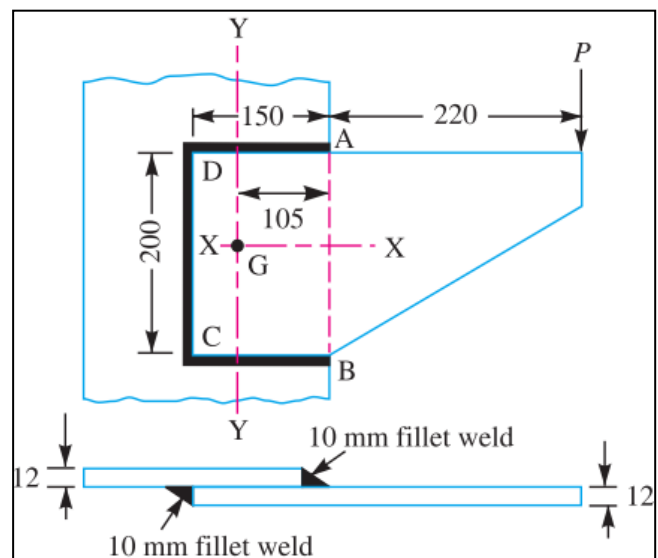

Fig. 3 (Que. 5 (a))
- Q.5 (a)** A bracket is welded to the side of a column and carries a vertical load P, as shown in Fig 3. Evaluate P so that the maximum shear stress in the 10 mm fillet welds is 80 MPa. **10**